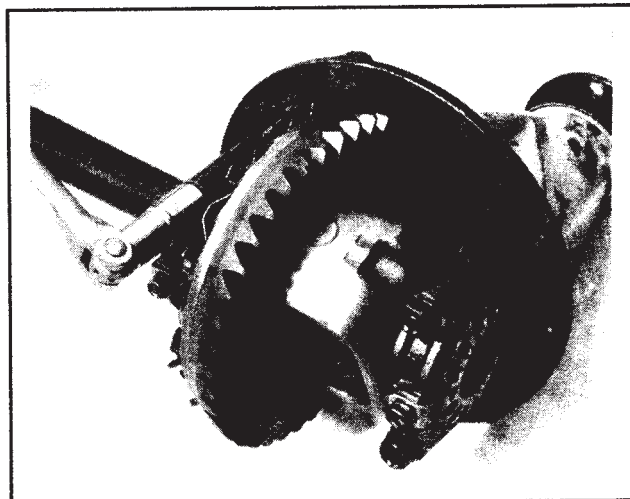

Figure 4
5. Remove the adjuster locks. (see Figure 4). Be sure that each adjuster is marked at the lock with the correct number of punch marks for each side. The adjusters are not interchangeable after they are marked for position! (In general, the adjuster locks themselves are interchangeable.)
6. Remove the bearing caps (Figure 4).
2. Remove the bearing caps (and locks, if used; see Figure 4.)